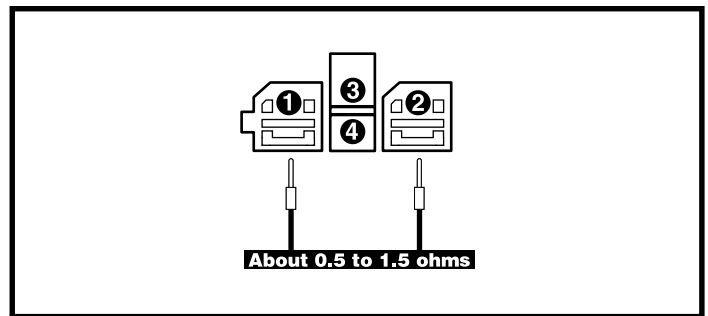
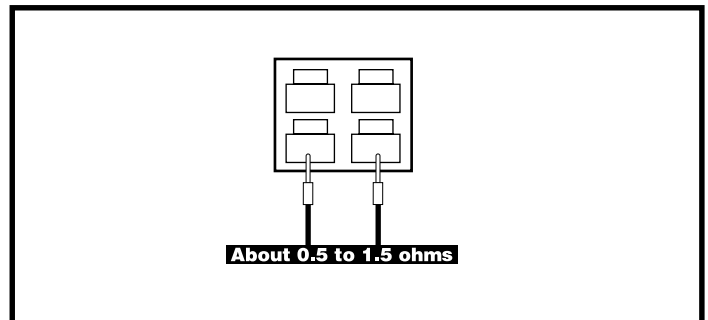
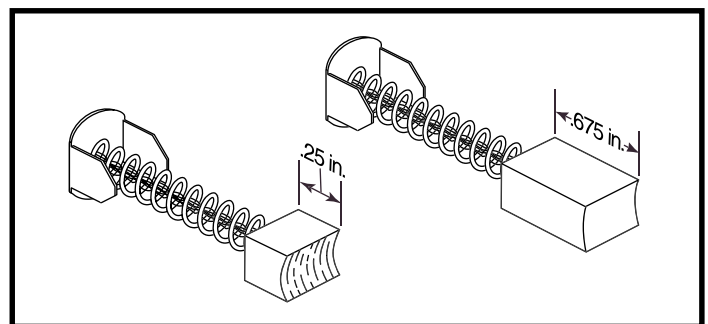

Figure 25. Connector 14b
Figure 26. Connector 9a
Figure 27. Motor Brushes
4. Unplug connector 14b from the power module (4). **See diagram 2.**
5. Measure resistance across pin 1 and pin 2 of connector 14b. **See figure 25.**
- *If your multimeter indicates about 0.5 — 1.5 ohms, then replace the power module (4) and retest the system.*
7. Measure resistance across pin 1 (red) and pin 2 (black) on connector 9a. **See figure 26.**
- *If your multimeter indicates about 0.5 — 1.5 ohms, then replace the right motor interface harness (14) and retest the system.*
8. Remove the brushes from the right motor (9) and inspect them. **See figure 27.**
- *If the motor brushes are not worn below 0.25 in. or are not physically damaged, then replace the right motor (9) and retest the system.*